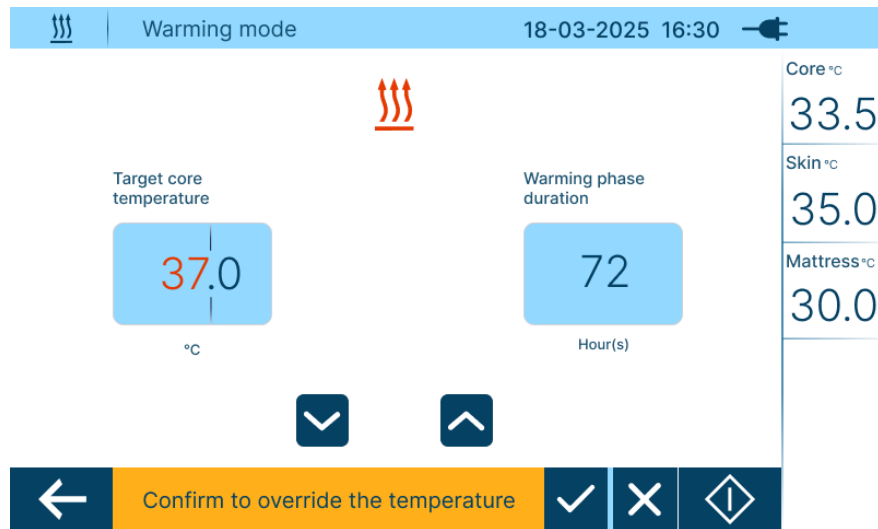

Figure 78: Override temperature (**Warming mode**)
- During the therapy, if the mode needs to be changed, tap the “Stop Icon” on the monitoring screen (refer to Figure 78 monitoring screen)